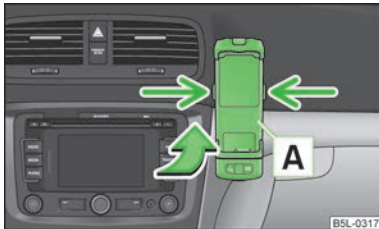

Fig. 111
- First of all push the adapter [A] in the direction of the arrow » Fig. 111 up to the stop into the mount. Then press the adapter slightly downwards, until it locks securely into position.
- Simultaneously press the locks on the mount » Fig. 111 and remove the adapter with the mobile phone.